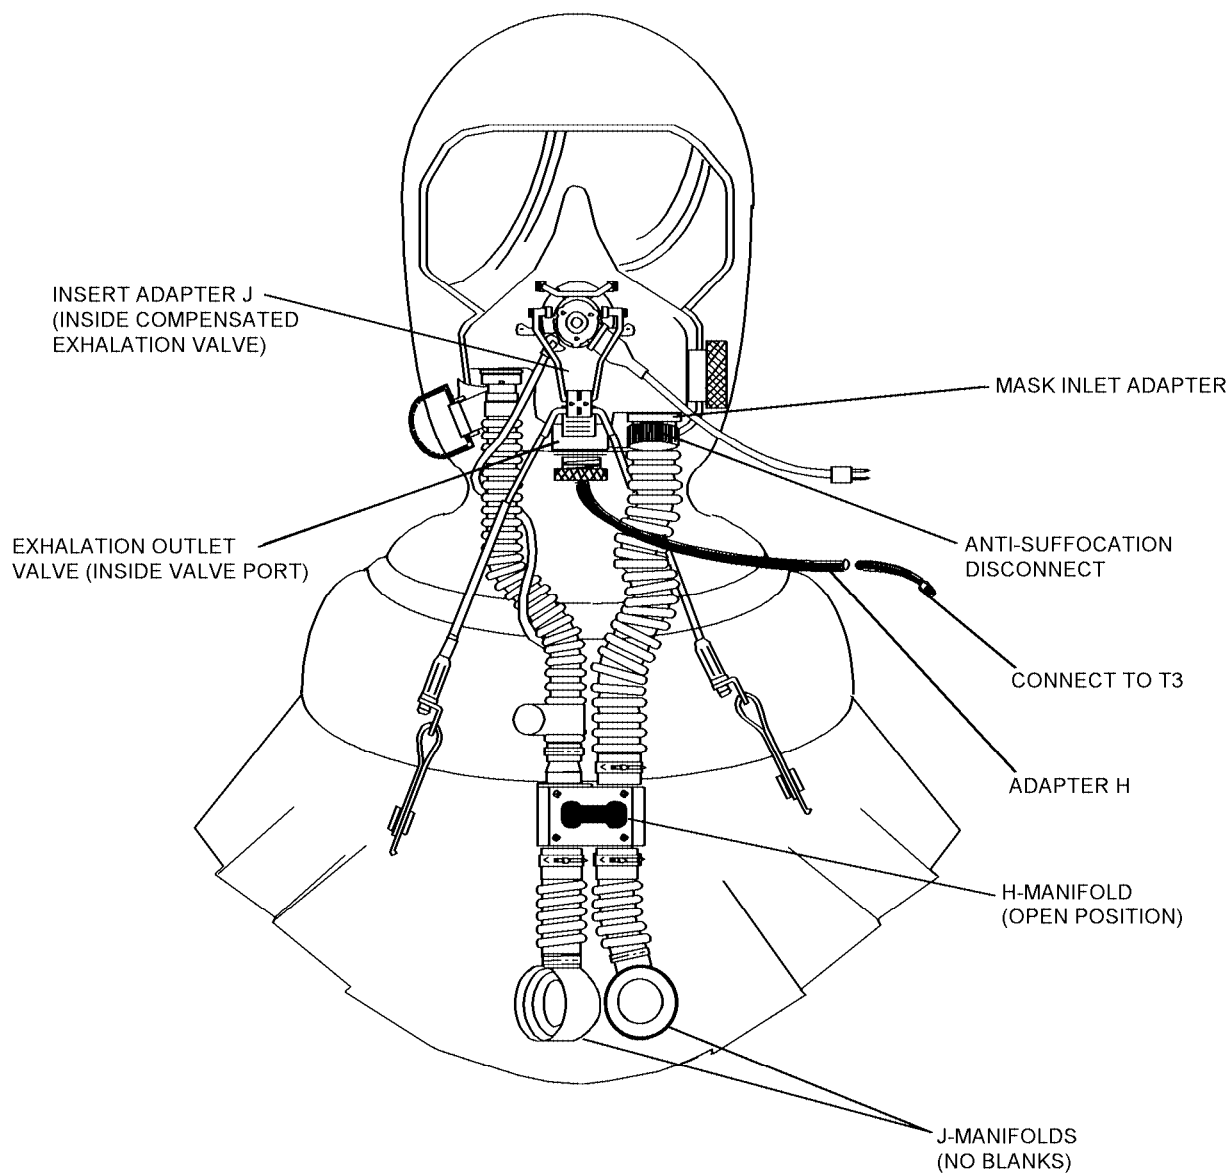

Figure 4-95. (V)2 thru (V)4 Variants - Exhalation Outlet Valve - Reverse Leakage Test
4. Slowly push adapter H into exhalation valve port. Push straight-in until O-ring is no longer visible (figure 4-95).